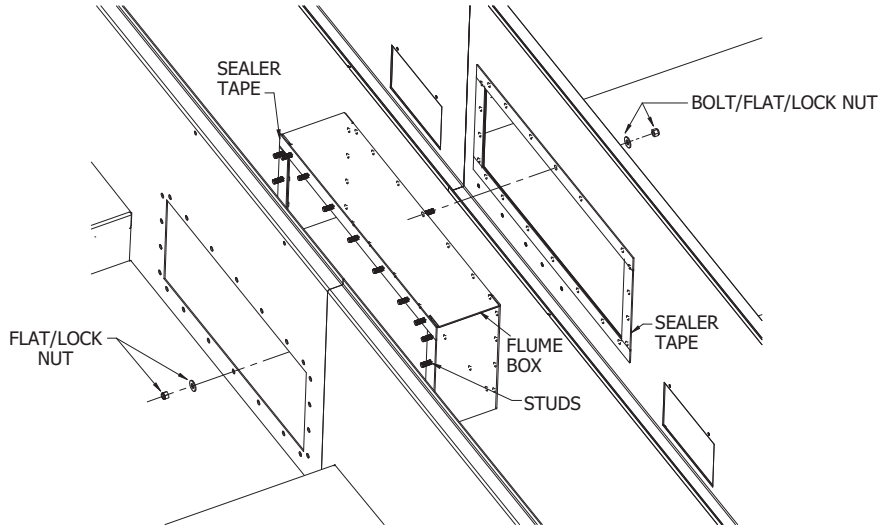

Figure 10 – Flume Box Detail
6. Align the bolt holes in the equalizer flume and the equalizer opening with drift pins, while drawing the second bottom section against the flanged connection (Figure 10).